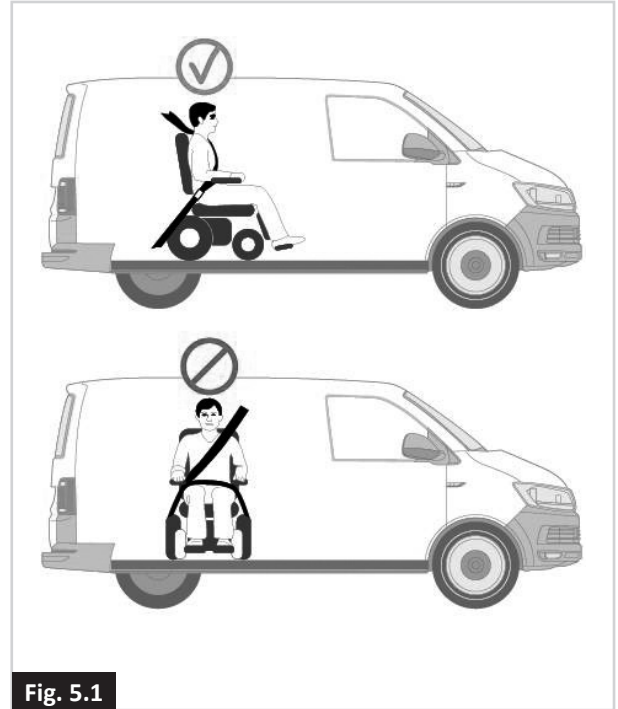

Fig. 5.1
- The wheelchair should be secured in a forward facing direction. This wheelchair is approved for use in cars and meets the requirements for forward facing transport and head on collisions. The wheelchair has not been tested for other positions in a vehicle (Fig. 5.1).